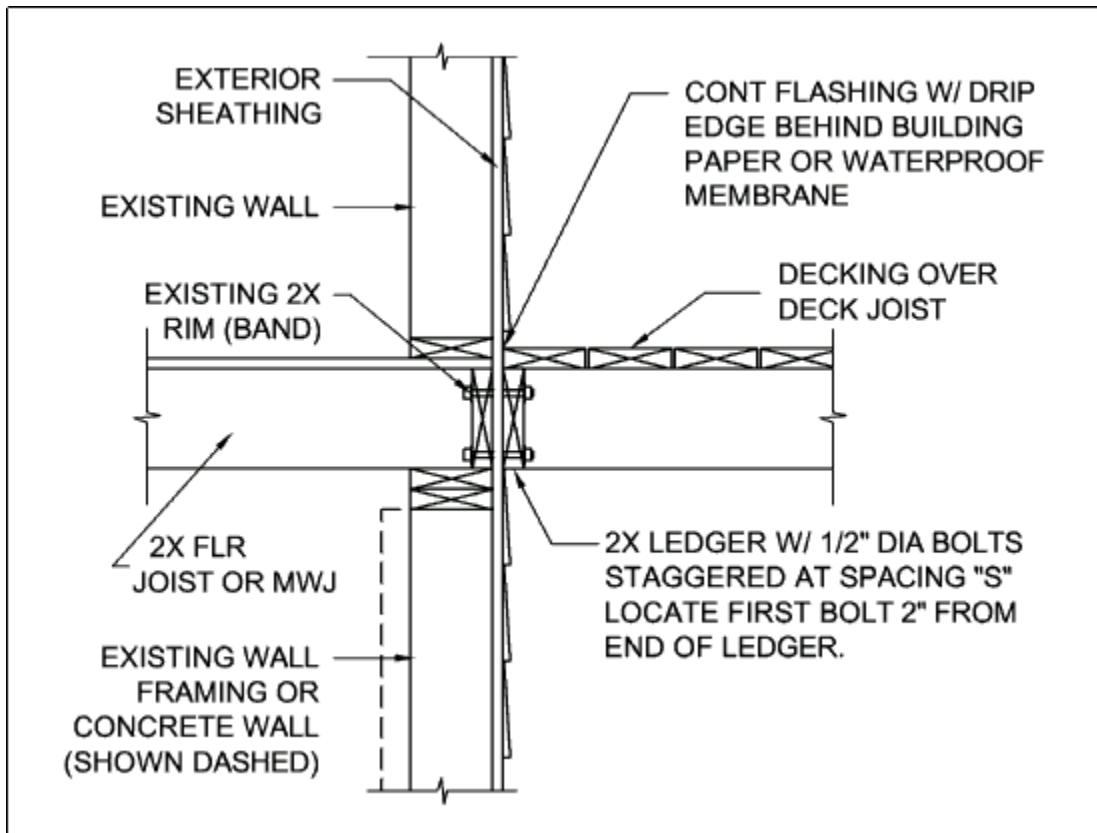
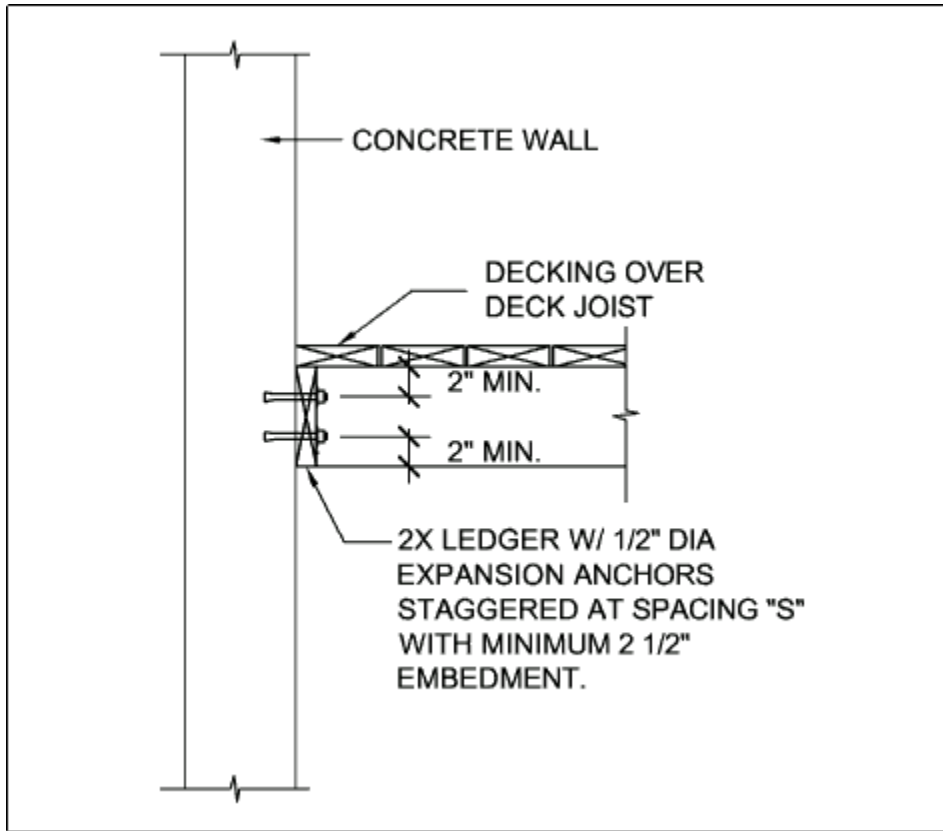

Figure 6 – Attachment of Ledger Board to Band Board with Bolts.
Figure 7 – Attachment of Ledger Board to Concrete Wall.
- 7. Determine if you will be connecting to a band board (rim joist), see Figure 5; a concrete wall, see Figure 6; or a sill plate, see Figure 7. Note: This document cannot be used with masonry walls.
Expansion (Wedge) Anchors: Use expansion anchors when attaching a ledger board to a concrete wall as shown in Figure 7. Bolt diameters of the anchors shall be a minimum of $\frac{1}{2}$ "; in some cases, this may require an anchor size of $\frac{5}{8}$ ". Minimum embedment length shall be $2\frac{1}{2}$ ". Expansion anchors must have washers.